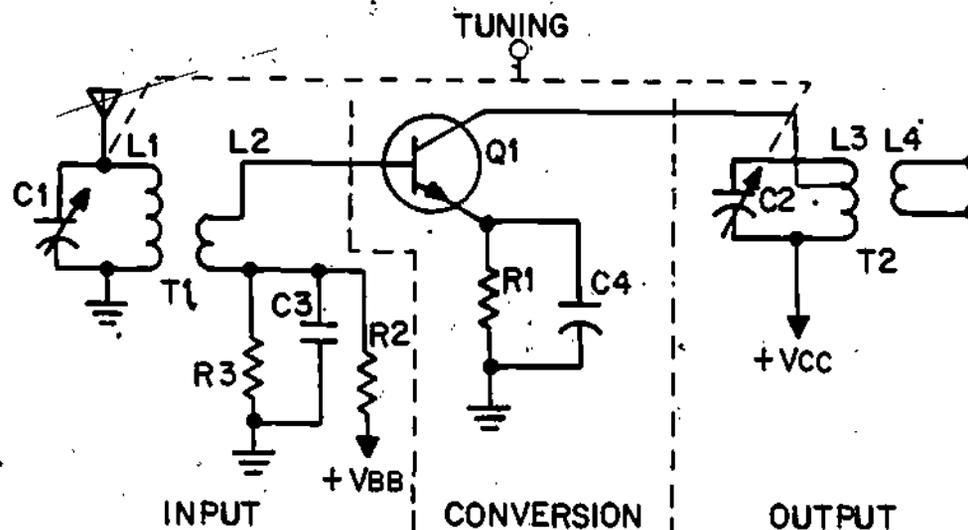

Figure 20
23. Now let's trace a signal through the entire amplifier, shown again in Figure 20, to see how it operates.
In Figure 20, the tuned signal is coupled to L2 by \_\_\_\_\_.